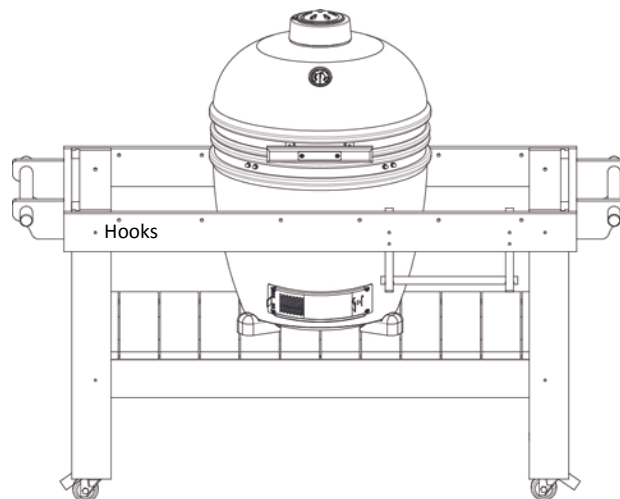

Figure 11
**STEP 4** Place assembled table on a secure level surface and lock the front casters before inserting the grill. Gently place the grill into the table and adjust the feet with the Heat Shield pan to fit with the base of the grill. Adjust the position so the front of the grill is centered between legs with the two locking casters. (See Figure 11)